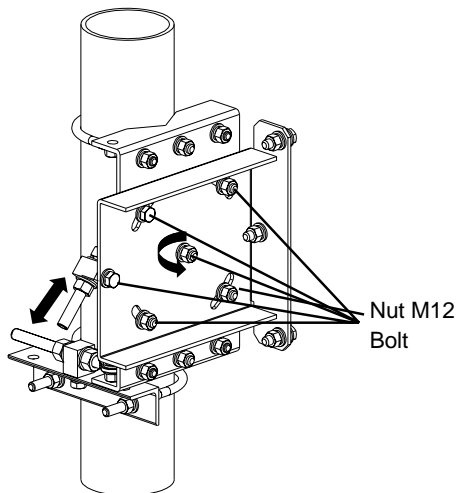
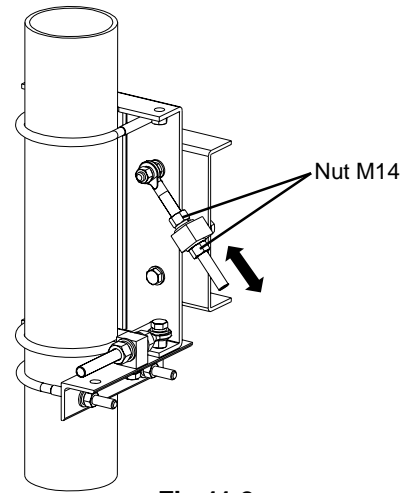

Fig 11.1
Fig 11.2
11.1.1 Loosen M12 Nut and bolt (shown in Fig 11.1), and then rotate M14 Nut clockwise or counterclockwise to make elevation adjustment (shown in Fig 11.2).